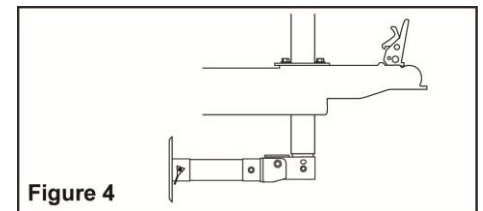

Figure 4
The Brute Super Foot should now be installed as shown in Fig. 4, with the Brute Super Foot in the "travel" (up) position.
To stow the Brute Super Foot in its “travel” (up) position (Fig. 4):
2. Rotate the Brute Super Foot head until it points to the back of the trailer (as seen in Fig. 4), and not offset to either side.